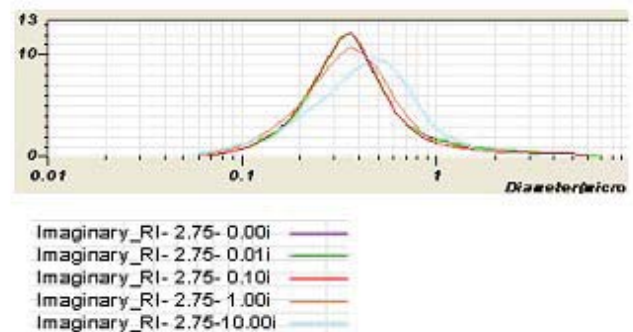
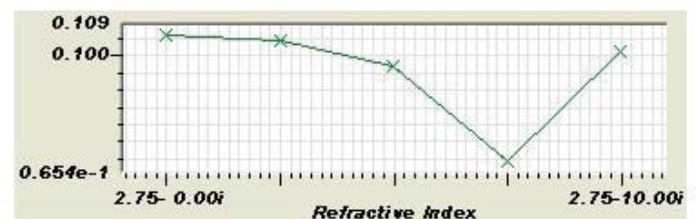

Figure 1: Calculated size distributions for varying imaginary RI component
Figure 2: R parameter (Y axis) vs. RI
The selection of refractive index is an important parameter when using laser diffraction (1,2). The real refractive index (RI) of this form of TiO_2 is known to be 2.75. The optimum imaginary RI component was selected using the calculation optimization wizard within the Method Expert software (ref). The real component was fixed at 2.75 while the imaginary component was varied from 0, 0.01, 0.1, 1.0, and 10. The wizard then calculated the size distribution results and R parameter, a value that expresses the error in the conversion from raw scattered light data to the final result. A minimum R parameter (3) value indicates the optimum choice for the imaginary RI component. The results from the calculation optimization wizard are shown in Figure 1 (size distribution results) and Figure 2 (R parameter vs. imaginary RI value).